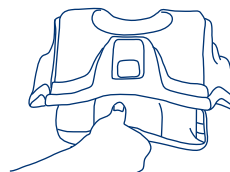

Fig. 51-2
- If the Seat Angle Indicator shows ANY red, the Safety Seat is either **too upright or too reclined**. If the seat is too upright, extend the foot one position at a time just until no red shows. To extend the foot of the base, pull downward on the hand hold as shown in figure 51-2 while holding onto the base. To retract the foot, press inward on the lock button as shown in figure 51-3 and push upward on the foot. Be careful not to pinch your finger as the foot retracts. Check the level indicator to see if the seat is now level.